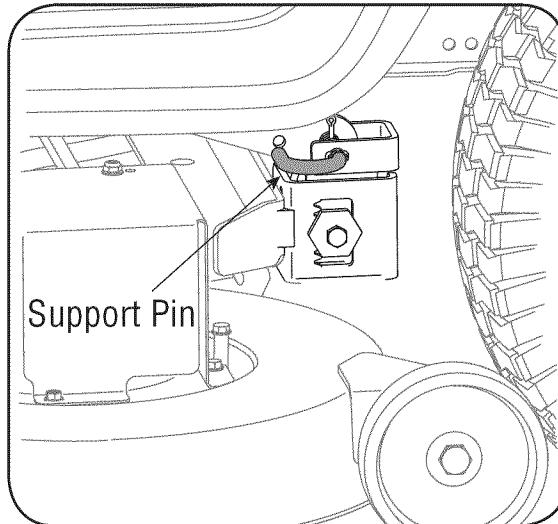

Figure 23
5. Looking at the cutting deck from the left side of the tractor, locate the deck support pin on the rear left side of the deck. See Figure 23.